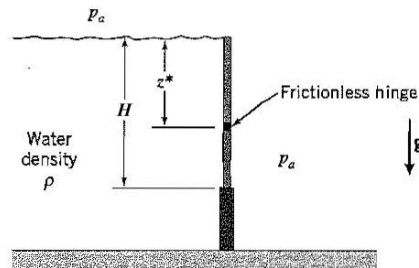

Figure P2.23
2.23 The gate shown in Figure P2.23 has a width W and a height h and it is pivoted on a frictionless hinge at a point z^* below the surface of the water. The top of the gate is level with the surface of the water. The water is of density ρ , and outside the tank the pressure is uniform everywhere and equal to the atmospheric pressure.